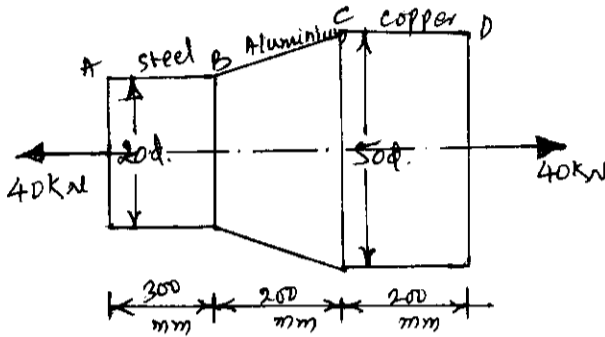

Fig.Q1(c)
c. A stepped bar is subjected to an external loading as shown in Fig.Q1(c). Calculate the change in the length of bar. Take $E = 200$ GPa for steel, $E = 70$ GPa for aluminium and $E = 100$ GPa for copper. (10 Marks)